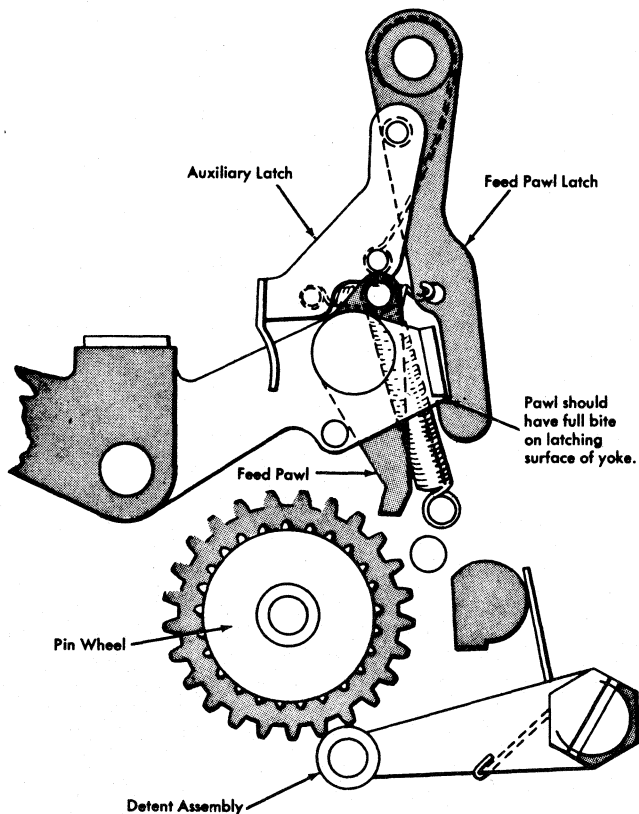

Figure 122. Feed Pawl Latch Bit
4. With reader unit latched up, the hook of feed pawl latch should have a full bite on lip of tape feed yoke arm (Figure 122). With reader unit unlatched, tape feed yoke should move past latched position .007-inch to .015-inch when on highest dwell of cam. There should be .001-inch to .006-inch free movement of the latch at this time. Curved end of feed latch assembly that rests against contact lever bail assembly may be formed to obtain this clearance.